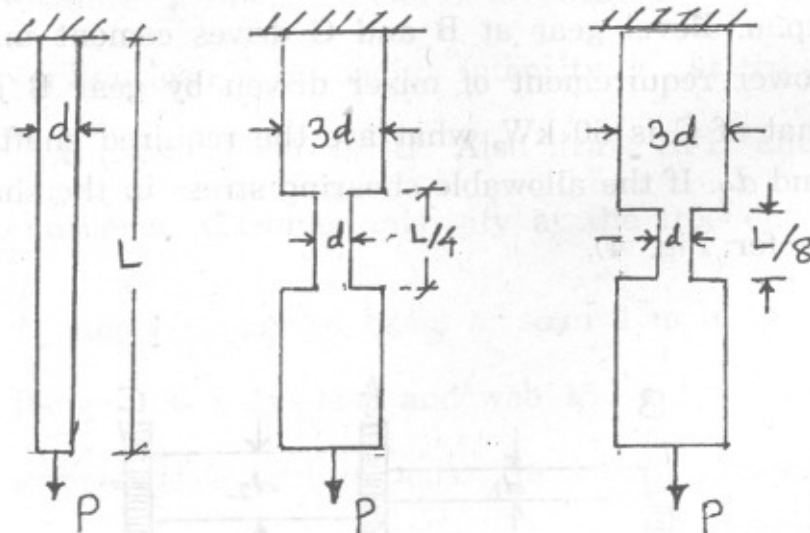

Fig. 5
- (b) Three round bars having same length but different shapes are shown in Fig. 5. All three bars are subjected to same load, P. Find the amount of strain energy stored in each bar, assuming linear elastic behaviour. [9]